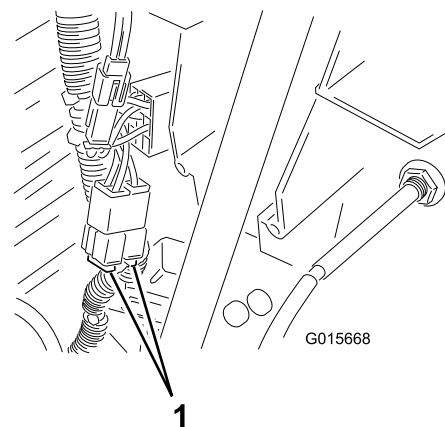

Figure 27
1. Lift up the hood and locate the fuse below the fuel tank (Figure 27).